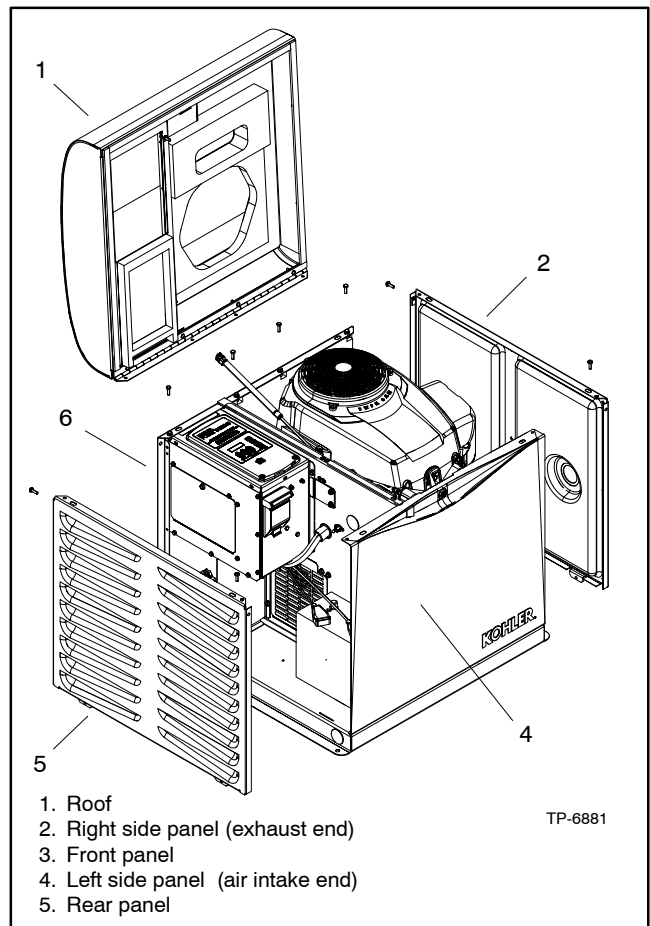

Figure 6-22 Enclosure
24. Reinstall the enclosure panels in reverse order of removal. See Figure 6-22 and Figure 6-23. Refer to the disassembly instructions, if necessary.